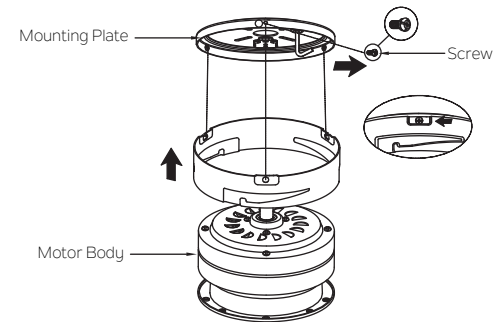

Fig. 11
Step 1. Remove the screw marked with a dot label pre-installed on mounting plate and keep for later use. Loosen the other two (do not remove). (Fig. 11)
Step 2. Lift up the motor body onto the mounting plate, place the two slot holes on the mounting plate cover over the 2 screws previously loosened from the mounting plate. Rotate the mounting plate cover until it locks in place at the narrow end of the key holes. Secure by tightening the 2 screws and the one previously removed. (Fig. 11)